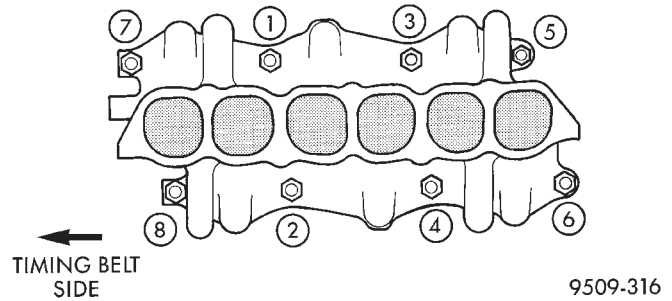

Fig. 38 Intake Manifold Tightening Sequence
- (1) Install intake manifold with new gaskets. Tighten in sequence shown in (Fig. 38) to 21 N-m (185 in. lbs.).
- (2) Apply a light coating of clean engine oil to the O-ring on the nozzle end of each injector.
- (3) Insert fuel injector nozzles into openings in intake manifold. Seat the injectors in place. Tighten fuel rail bolts to 12 N-m (8 ft. lbs.).
- (4) Attach electrical connectors to fuel injectors.
- (5) Connect fuel supply tube to fuel rail. Refer to Group 14, Fuel System for procedure.